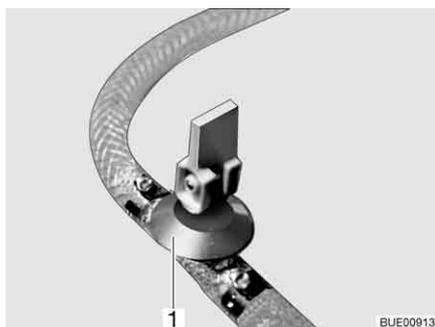
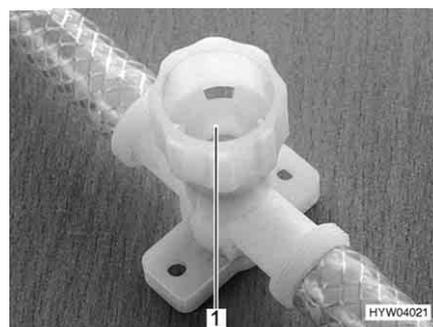

Fig. 226 Drain cock (with rocking lever)
Fig. 227 Drain cock (with twist cap)
- Open all drain cocks. To do this, position the drain cock's rocking lever (Fig. 226,1) vertically or turn the drain cock's cap (Fig. 227,1) in an anti-clockwise direction.